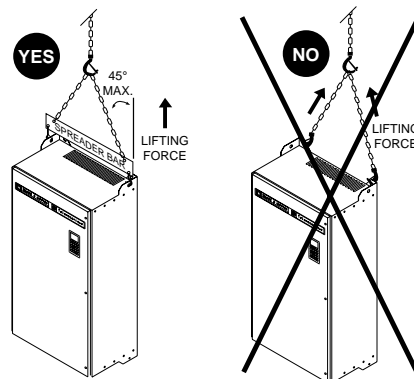

Figure 11: Hoisting ATVD66D54N4 to C31N41 and ATVD66D46M2
- With a hoist, attaching a spreader bar to the two lifting rings on top of the drive controller (see Figure 11) or
Keep area below any equipment being lifted clear of all personnel and property. Use lifting method shown below in Figure 11.
To hoist the drive controller, attach a spreader bar to the two lifting rings on top of the drive controller, as shown in Figure 11. Handle the drive controller carefully to avoid damage to the internal components, frame or exterior. Place the drive controller in an upright position.